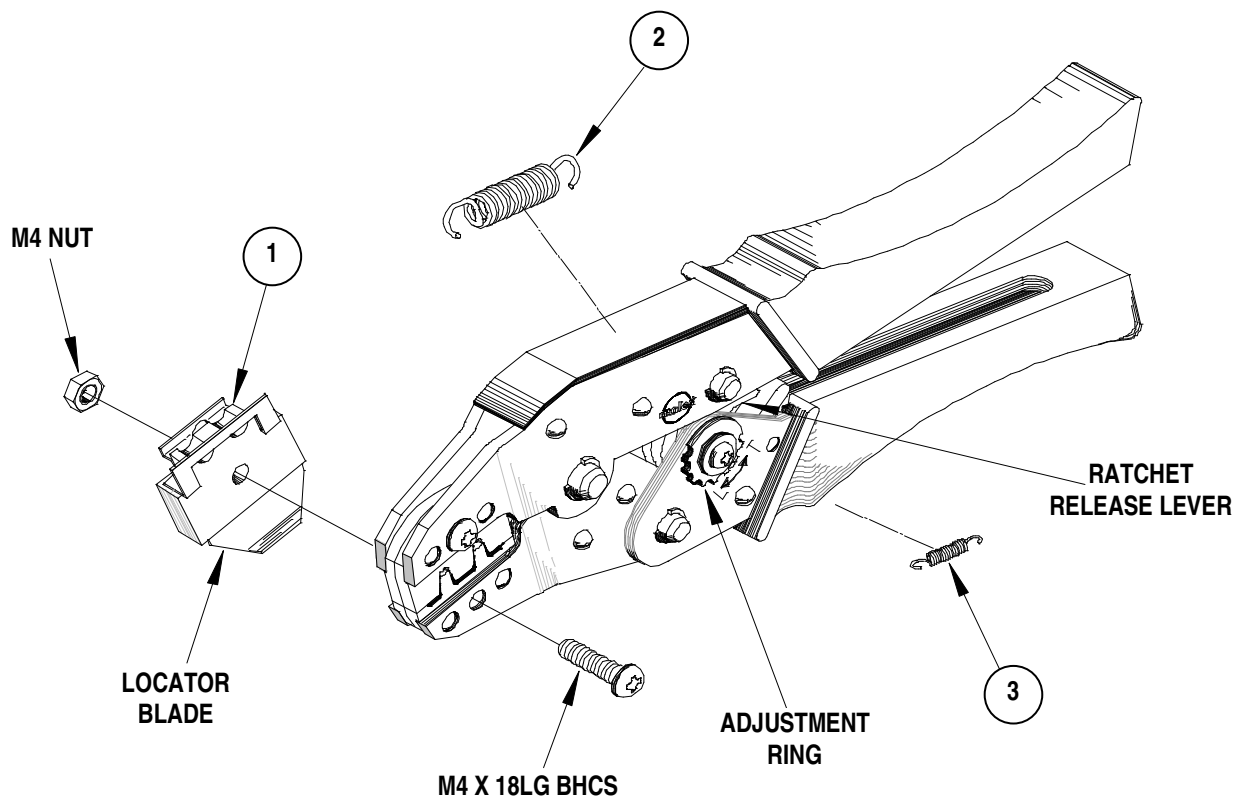

Figure 4
4. Compress the terminal by squeezing the tool handles until the ratchet mechanism cycle has been completed. Release handles to open the jaws. See Figure 4.
Should this tool ever become stuck or jammed in a partially closed position, **Do Not force the handles open or closed.** The tool will open easily by pressing the ratchet release lever. See Figure 4.
How to Adjust Tool Crimp Force (See Figure 4)